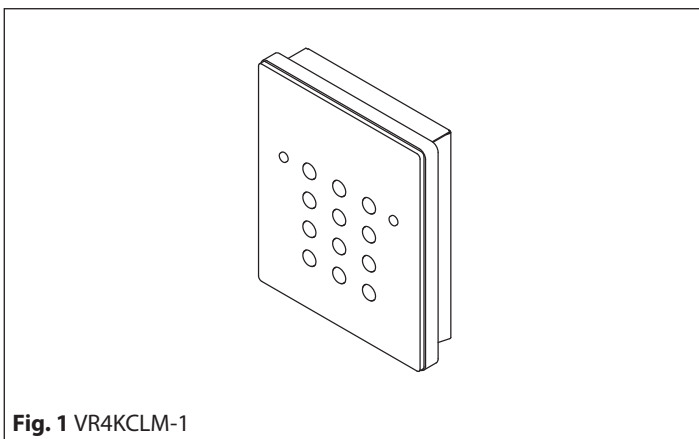
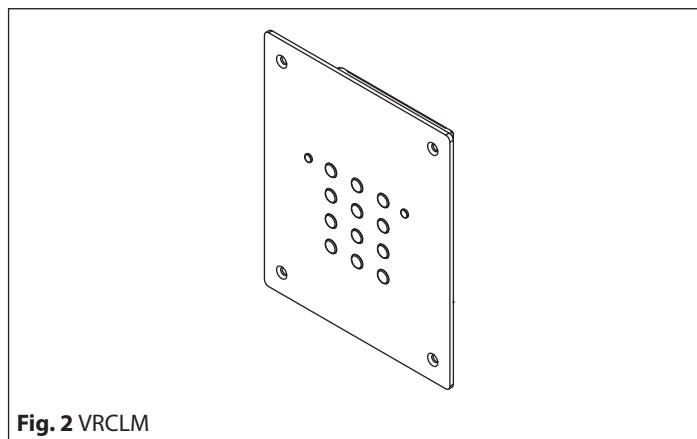

Fig. 1 VR4KCLM-1
Fig. 2 VRCLM
1. Embed the flush mounting box into the wall (160-170 cm between the top of the box and the floor level as shown on the **Fig. 1**) passing the cables (**Fig. 2**) through a previously opened hole in the box;